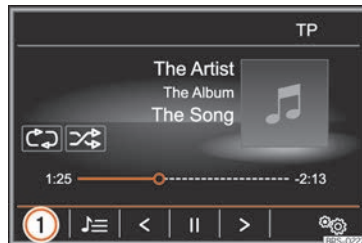

**Fig. 208** MEDIA main menu.
- In the MEDIA main menu, press function button »» **Fig. 208 ①** and select **[BT audio]**.